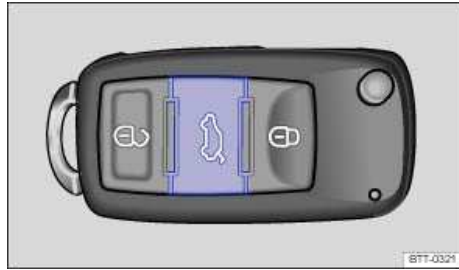

Fig. 29 In the remote control vehicle key: Button to unlock the rear hatch.
- Press the  button on the remote control vehicle key ⇒ fig. 29 to unlock the rear hatch. Then open the rear hatch using the Volkswagen emblem.